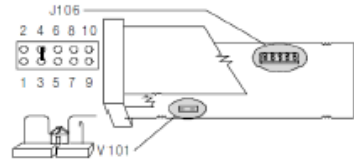

Figure 1
1. Open V101 switch for Basic/Advanced Configuration (Figure 1)
4. Close V101 switch after Basic/Advanced Configuration (Figure 1)